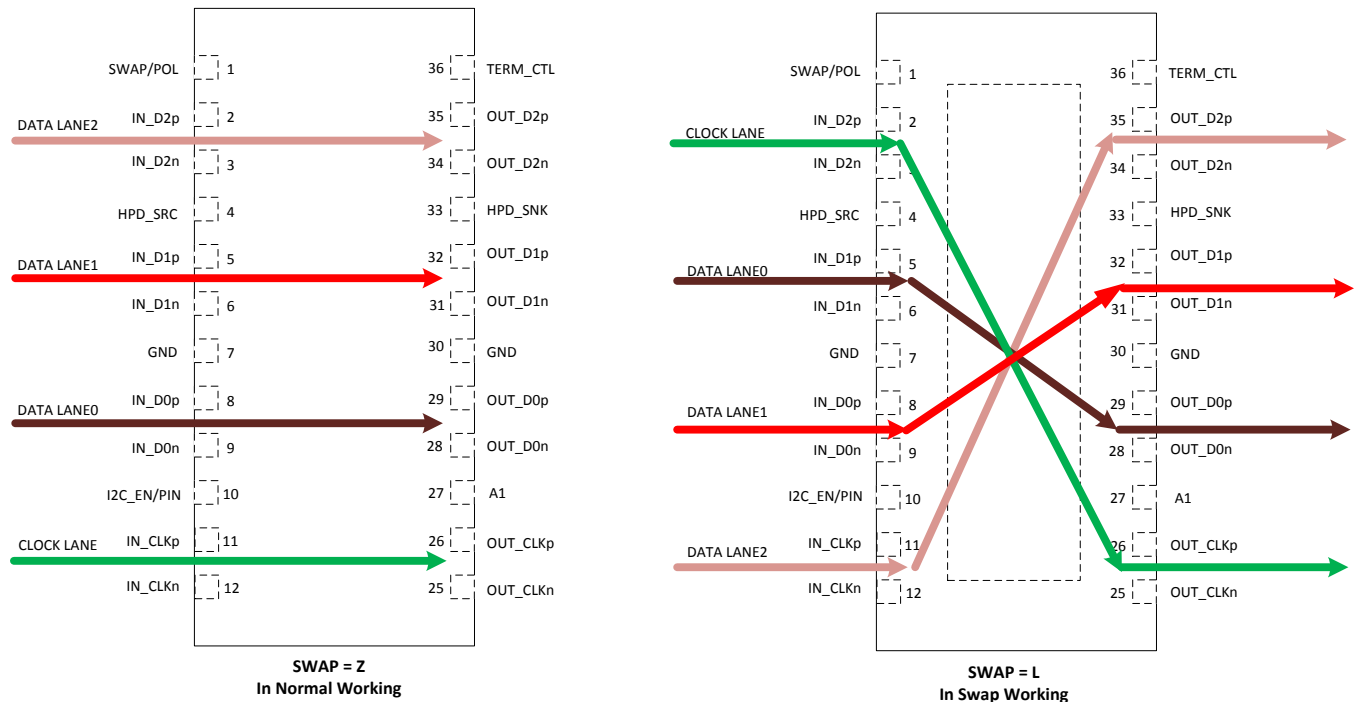

Figure 26. TMD5181 Swap Function
TMD5181 incorporates swap function, which can set the input lanes in swap mode. The IN_D2 routes to the OUT_CLK position. The IN_D1 swaps with IN_D0. The swap function only changes the input pins. The EQ setup follows the new mapping (see Figure 26). This function can be used with the SWAP/POL pin 1 and control the register 0x09h bit 7 for SWAP enable. Lane swap function works in both redriver and retimer mode.
(1) The output lanes never change, only the input lanes change. See Figure 26.